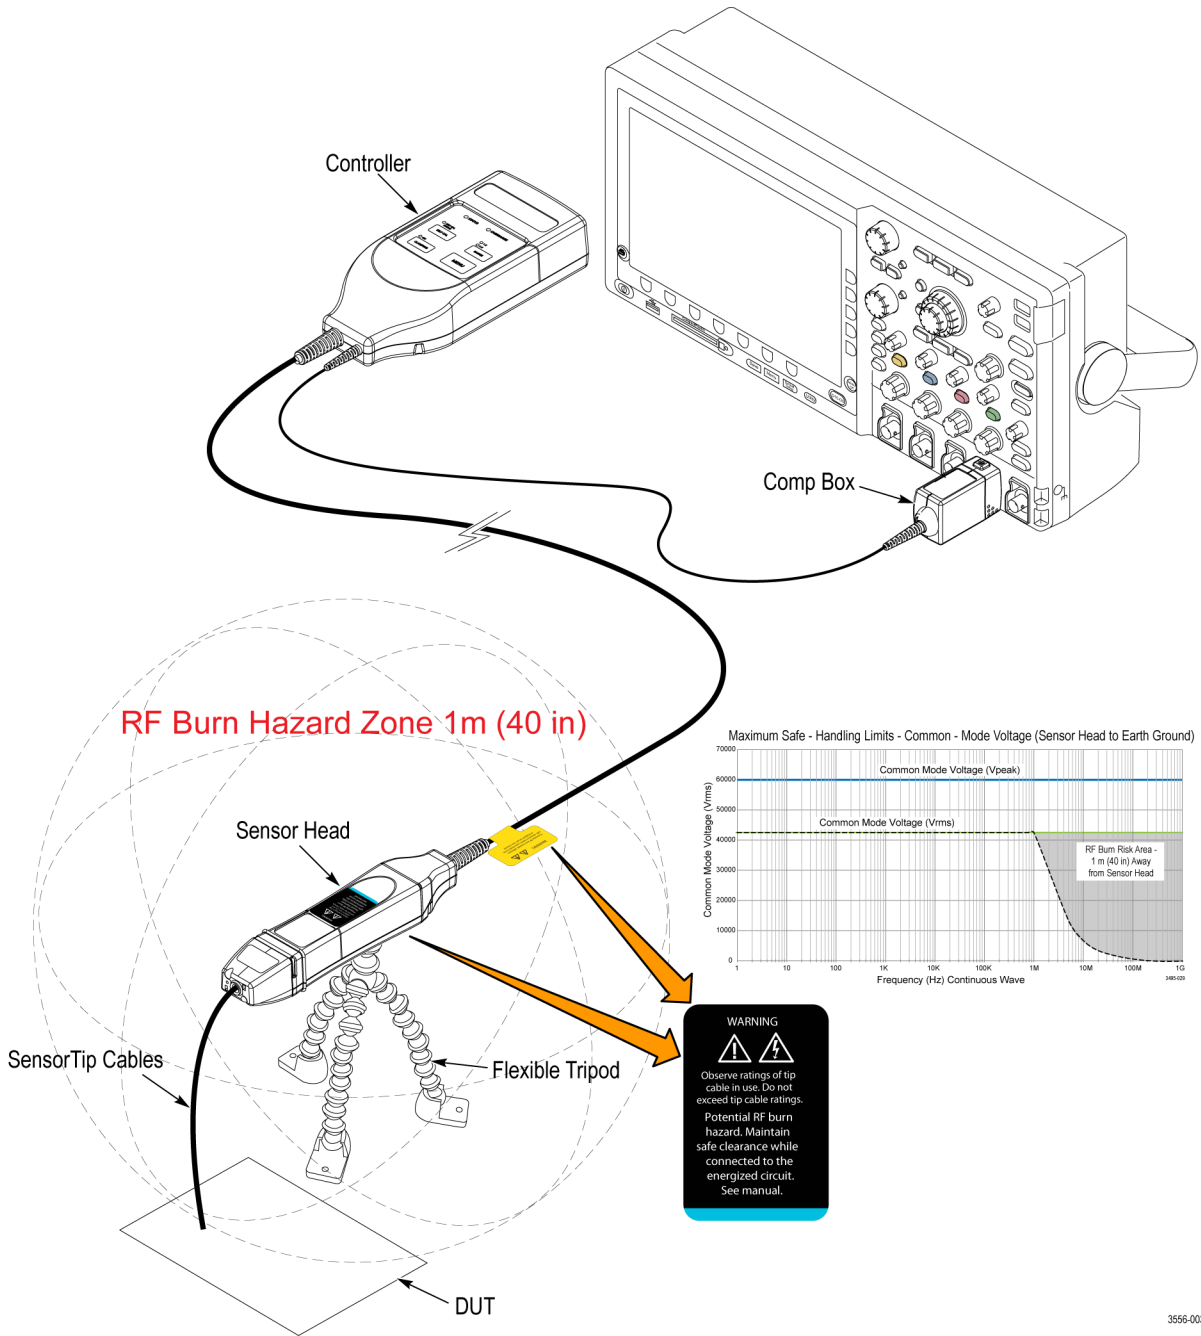

Figure 2: RF burn hazard zone around the sensor head
Maintain the safe clearance from the sensor head and sensor tip cable while the measurement system is connected to the energized circuit as recommended in this document. (See Figure 2 on page 6.) Do not access the RF Burn Hazard Zone while taking measurements on a live circuit.
**WARNING.** *To avoid the risk of electrical shock or RF burns while the DUT is energized, do not touch the sensor head or sensor tip cable while taking measurements. Always keep a 1 m (40 in.) clearance from the sensor head during the measurement. (See Figure 2 on page 6.)*